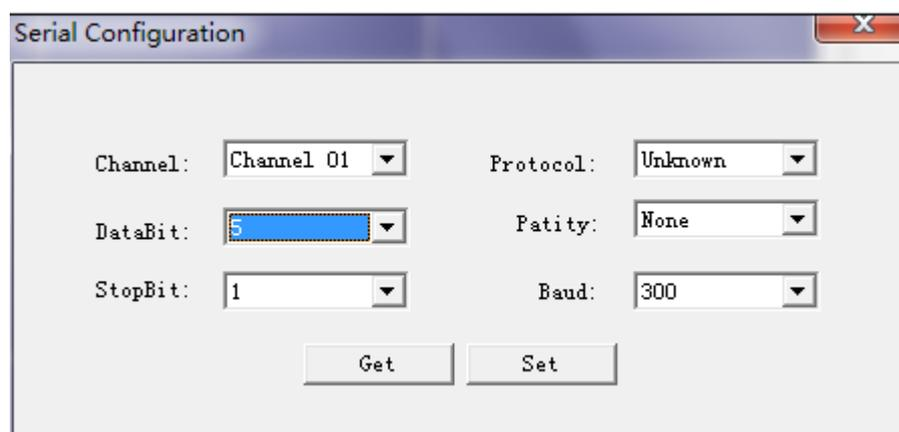

Figure 2- 12
Step 2. Click Set. See Figure 2- 12.